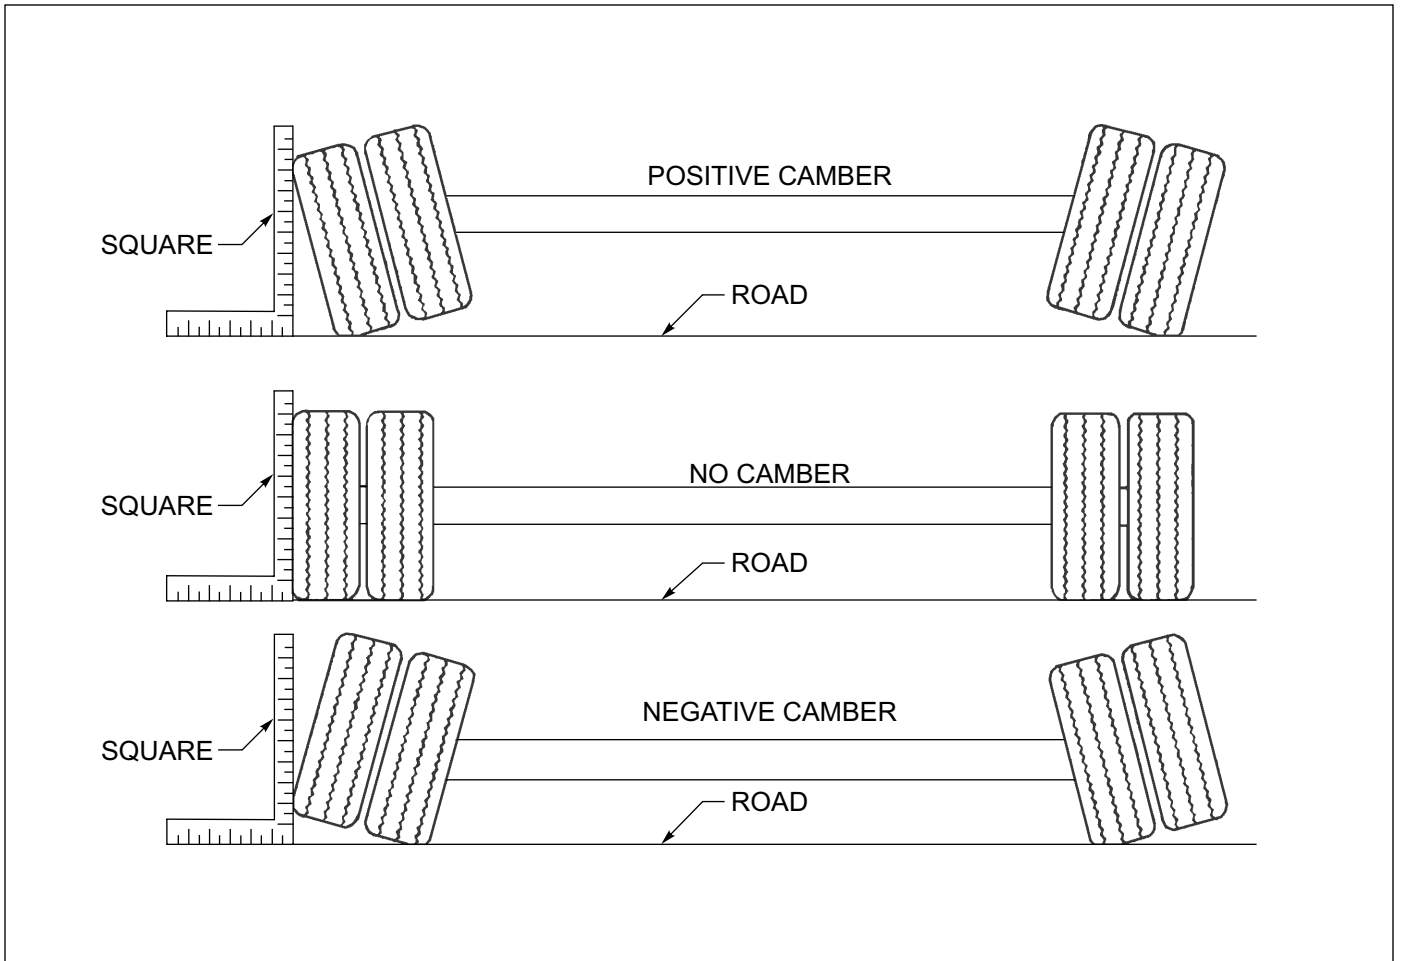

Figure 4-7: Examples of Camber
4. Follow the same procedures as in **steps 2 and 3**, except place the axle gauge above and below the axle. If gauge point gap is found, the axle has positive or negative camber. The trailer axle has no camber from the factory. If it is found to have positive or negative camber, axle replacement is necessary for examples of camber **(See Figure 4-7.)**